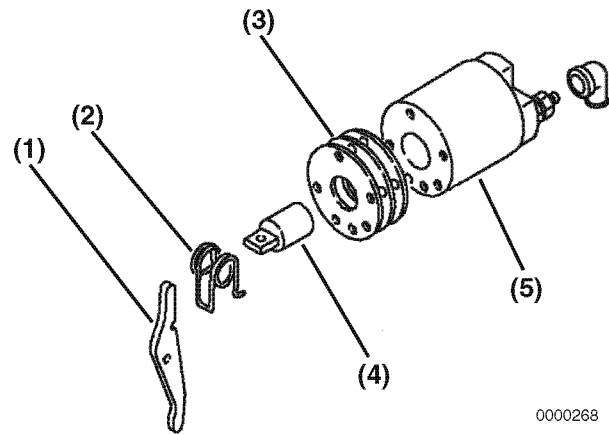

Figure 11-28
4. Apply a small amount of high temperature lithium grease (obtain locally) to the sliding portions of the shift lever (**Figure 11-28, (1)**). Reassemble the torsion spring (**Figure 11-28, (2)**), shift lever and dust cover(s) (**Figure 11-28, (3)**), plunger (**Figure 11-28, (4)**) and magnetic switch assembly (**Figure 11-28, (5)**).